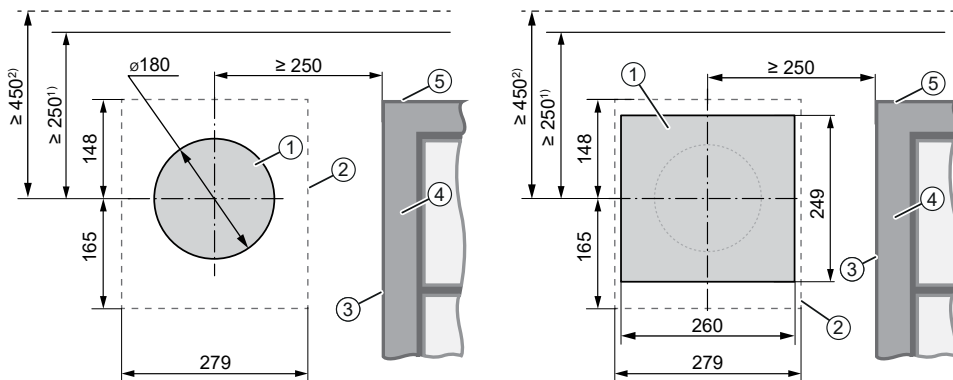

Figure 4: Dimensional drawing wall opening aV160 ALD (interior view) with weather protection grille Light [top] and weather protection hood Flex [bottom].
- 1 Wall opening (Fig. 4, left, above and below)
- 3 Wall installation system Simplex (Fig. 4, right, above and below)